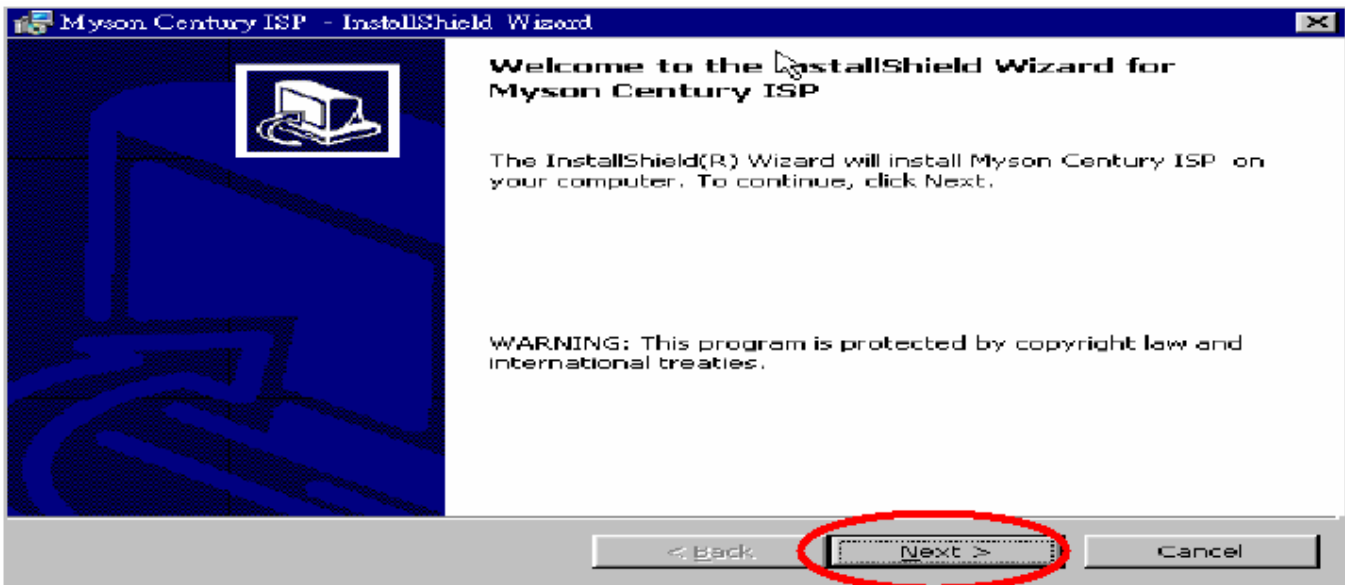

Fig 2.3
2.3 Press "Next" button to continue., see Fig 2.3